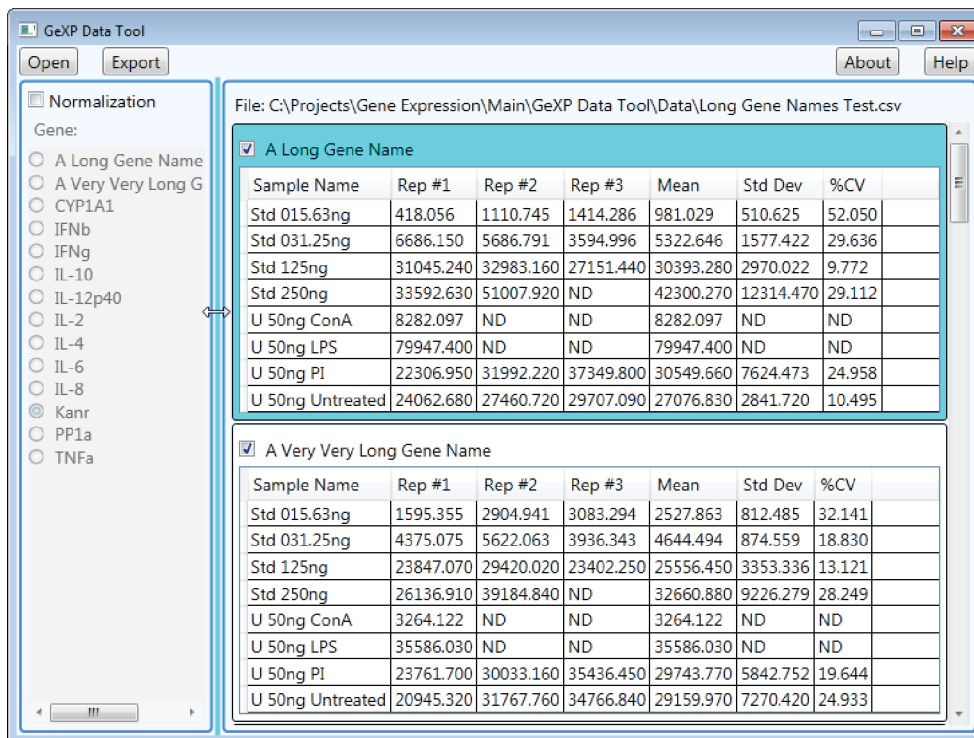

Figure 7.27 Horizontal scroll bars appear as needed
The area of the window (Figure 7.27) showing the list of gene names for normalization can be expanded to the width necessary to display the longest name.
1. Click the **Export** button. Refer to Figure 7.27.